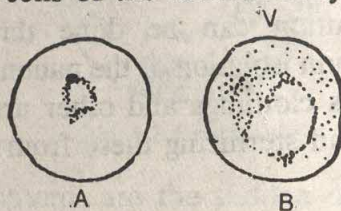

Fig. 8.6 *Plasmodium* causes Malaria.
(1) **Malaria.** This is again caused by a protozoan called Plasmodium (Fig. 8.6) which lives as a parasite within the red blood cells of the human body.